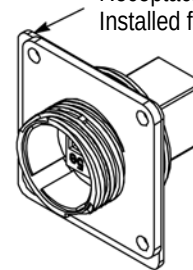

Figure 2
1. Align the locking tab of the coupler (mating face first) with the wide slot at the back (large diameter end) of the receptacle assembly. Depress the locking tab, and insert the coupler into the receptacle assembly until there is an audible "click." See Figure 2, Detail A.
2. Fit the flange seal over the mating face (small diameter end) of the receptacle assembly (for back panel mount) or the back of the receptacle assembly (for front panel mount) until it is flat against the flange. Make sure that the mounting holes align. See Figure 2, Detail B.